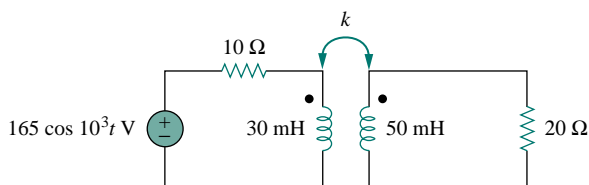

Figure 13.90 For Prob. 13.21.
- 13.21** In the circuit of Fig. 13.90, find the value of the coupling coefficient k that will make the $10\text{-}\Omega$ resistor dissipate 320 W . For this value of k , find the energy stored in the coupled coils at $t = 1.5\text{ s}$.